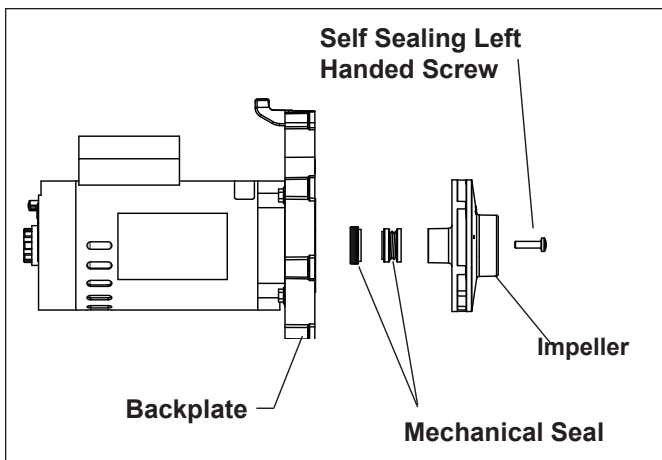

Figure 6. Remove the Impeller
7. Hold the exposed motor shaft with a ½" wrench while removing the impeller center screw using a No. 2 Phillips screwdriver. See Figure 6.